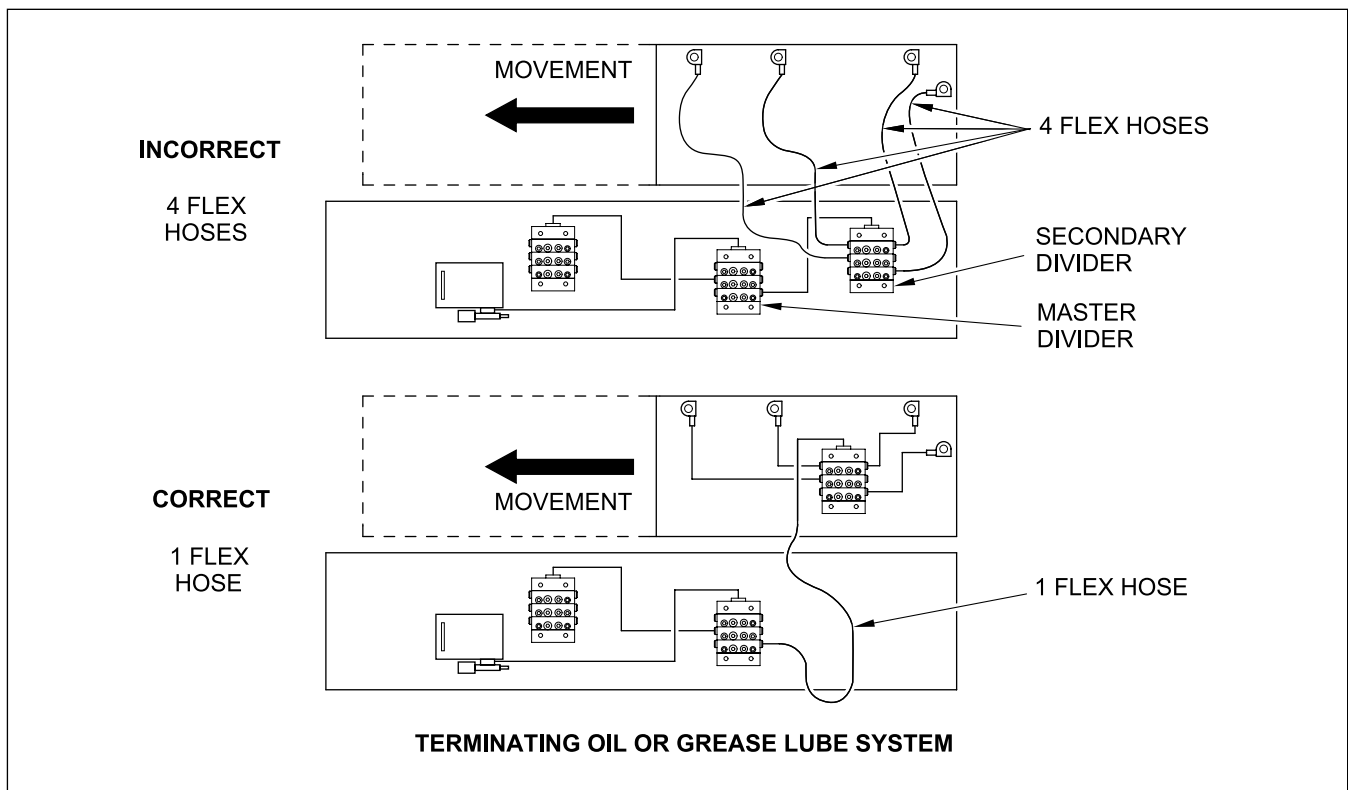

Figure 1
3. If lubrication points are located on a portion of the equipment that is moving, the divider valves should be located to minimize the number of connecting hoses that are required to be moving and flexing. See Figure 1, page 4-6.
See Figure 1 for example and diagram of this general system configuration guideline.